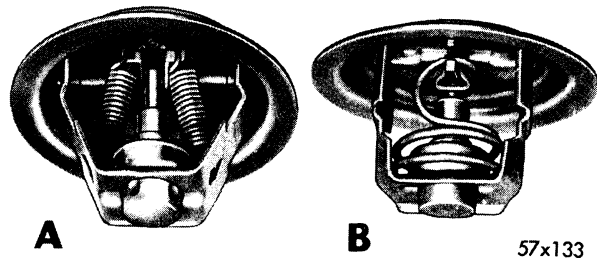

Fig. 9—Thermostat Assembly
6. THERMOSTAT (Testing) (Fig. 9)